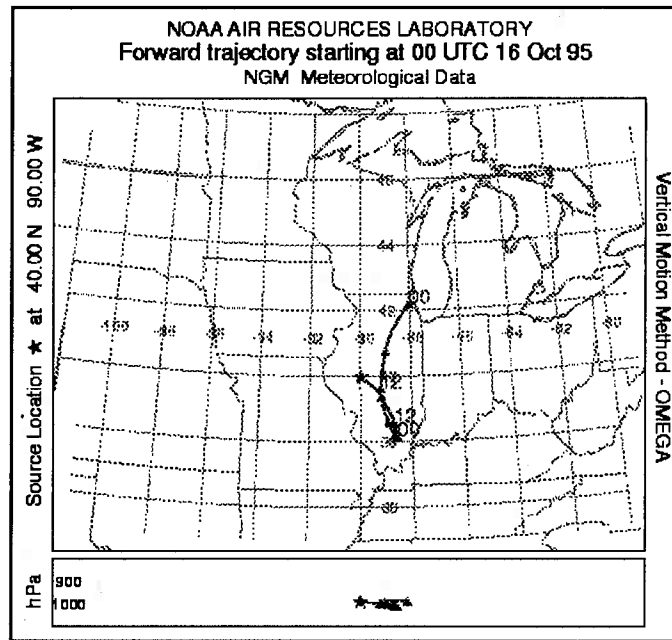

Figure 2. Example from Postscript conversion.
Step 8 - selecting *Convert to Postscript* will run a special program that converts the ASCII file of trajectory end-point positions into a high quality Postscript file (*trajplot.ps*) suitable for printing. No messages appear during the conversion. However if a Postscript viewer (*Ghostscript / Ghostview*) has been installed and associated with .ps files, then it will be automatically invoked by the GUI. If the viewer does not automatically open, it may be necessary to manually edit `\guicode\hysplit4.tcl` to change the directory location associated with the program *gsvie32.exe*. The sample output from the Postscript file is shown in Fig. 2. Trajectory positions are marked at 6-h intervals and the vertical projection is shown in the lower panel.